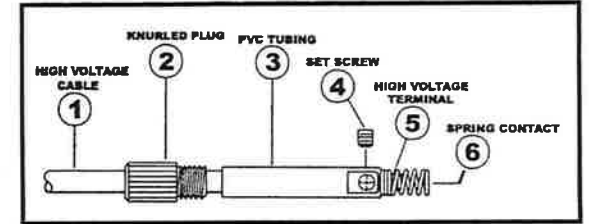

Figure 2
Two types of high voltage cables are used on SIMCO-ION equipment. The larger diameter cable (black) requires the 5050001 connector and the smaller diameter cable (red) uses the 5050002 connector. Installation of both connectors is the same with the exception of step "1". Refer to Figure 2 for details.
Insert a 5/64" Allen wrench to remove set screw (item 4) from high voltage terminal. Proceed to remove spring-loaded high voltage connector (item 2, 3, 5, 6) from cable. Refer to Figure 2 for details.